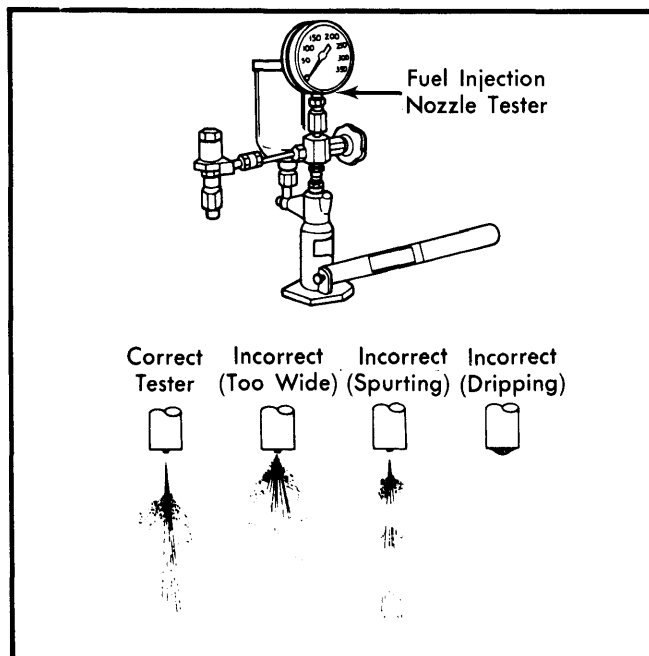

Fig. 4 Injection Nozzle Spray Patterns
1) Remove nozzles and connect injection nozzle tester. Pump tester lever about 30 times a minute to observe spray pattern. See Fig. 4. If spray is faulty, replace injector.